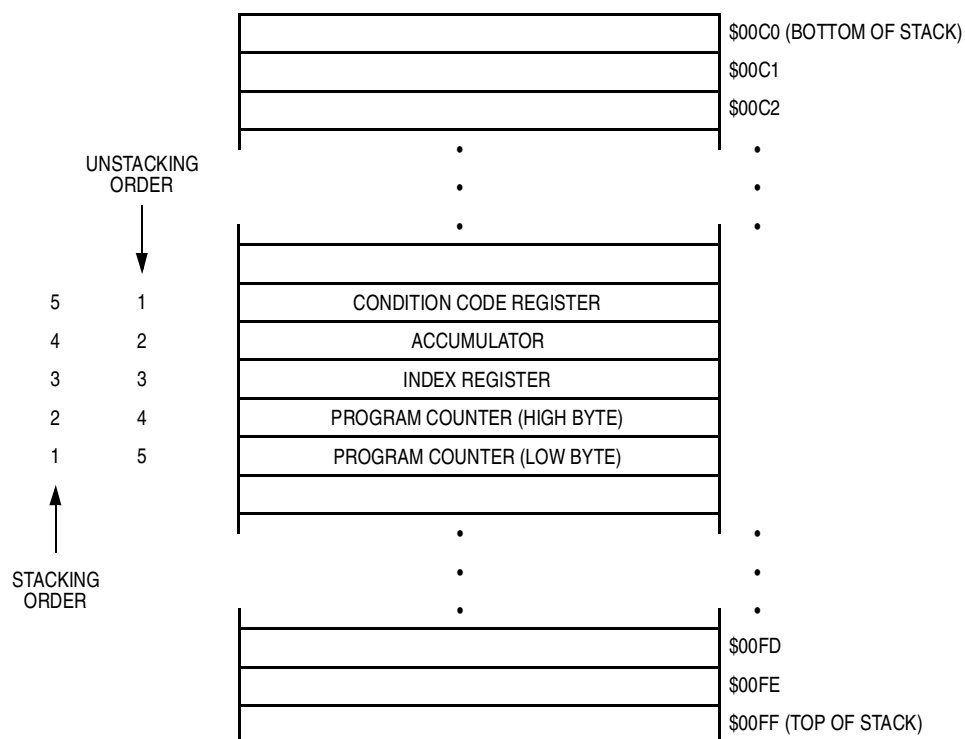

Figure 4-6. Interrupt Stacking Order
- Stores the CPU registers on the stack in the order shown in Figure 4-6
The return-from-interrupt (RTI) instruction causes the CPU to recover the CPU registers from the stack as shown in Figure 4-6.